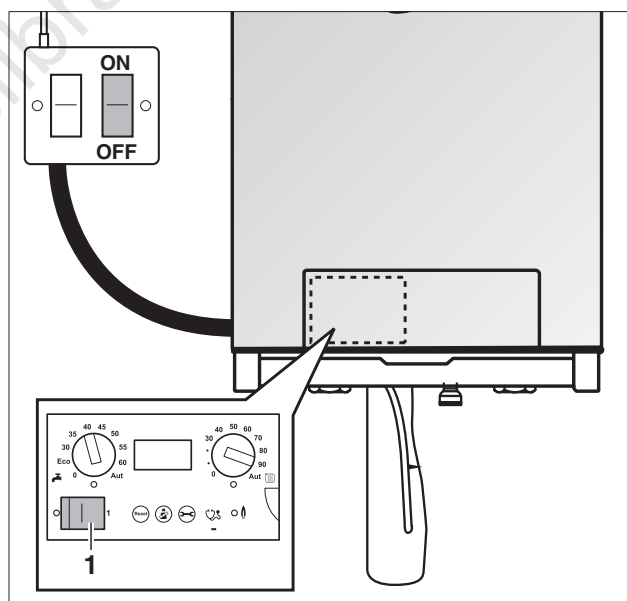

fig. 57 Mains supply
Connection must be made in a way that allows complete isolation of the electrical supply such as a double pole switch having 3 mm contact separation in both poles, or by a three pin connector, serving only the boiler and system controls. This boiler is equipped with a double pole switch, see fig. 57, **item 1**.